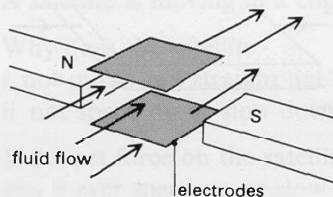

Figure H74
- 10(R)** In a form of flowmeter, a fluid is passed between a pair of electrodes and the poles of a magnet (figure H74).